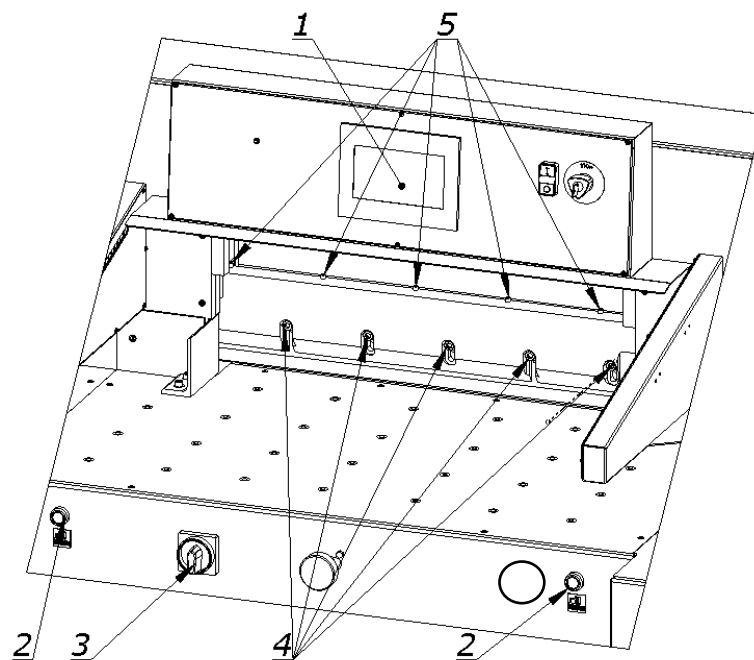

Figure 35.
8.1.2.9 Pressing the push buttons 2  (fig. 35) at the same time, start the cutting cycle. The knife will stop in the lower position.
8.1.2.12. Unscrew the fixing screws 4 (fig.35) so that the knife falls under its own weight on the base bar with its entire length.
8.1.2.13. Tighten the adjustment screws 5 (fig. 35) as far as they will go, so that the blade of the knife is cut into the slat, approx. 0.3 mm.
8.1.2.14. Tighten the mounting screws 4 (figure 35)
8.1.2.15 Switch on the power supply of the electrical system by turning the main switch knob 3 (fig. 35) to position "I".
8.1.2.16. Switch off the "knife change" function on the programmer 1 (fig.35)
8.1.2.18. Turn off the power supply of the electrical system by turning the main switch knob 3 (fig. 35) to the "0" position
8.1.2.20. Turn on the power supply of the electrical system by turning the knob of the main switch 3 (fig.35) to position "I"